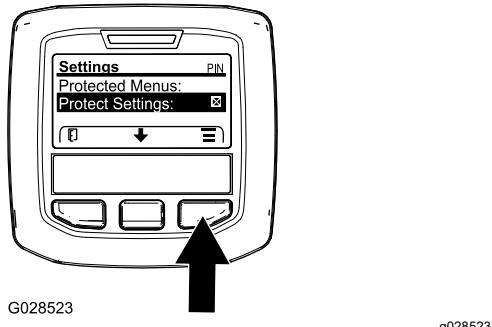

Figure 47
- Access the protected menu and unlock the protected settings submenu (Figure 47); refer to Accessing Protected Menus \(page 28\).